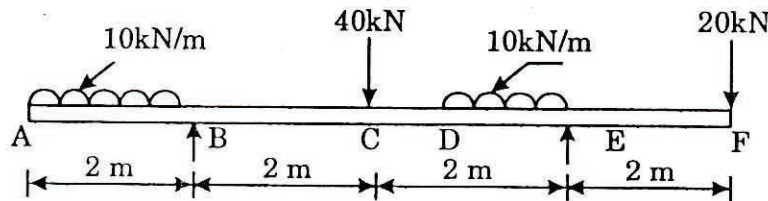

Figure 3
- (b) Draw SFD and BMD for the beam shown in figure 3. Indicate the position and the magnitude of maximum bending moment.